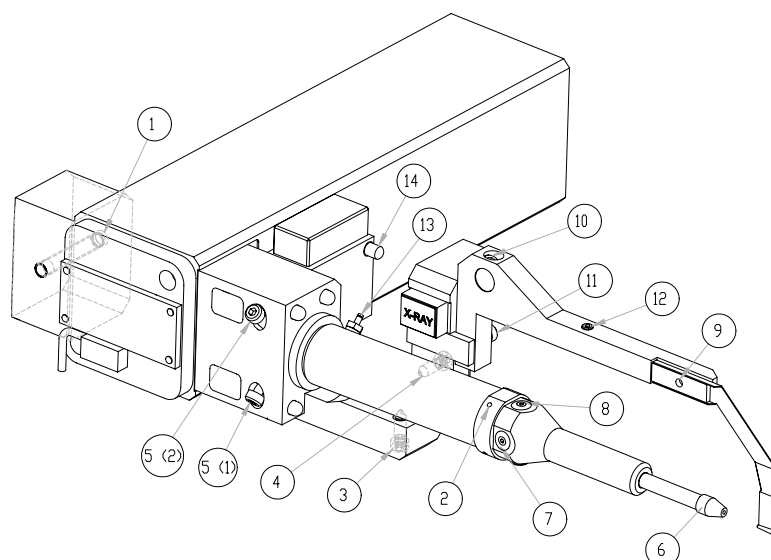

Figure 9.10.1 Adjustment screws of Enhance Ultra
5. Remove the Enhance ULTRA front face panel. Using a 3mm Allen key completely undo the screw 1 (see Figure 9.10.1) and lift off the front face panel.
6. Release the grub screws 2 (see Figure 9.10.1) and pull off the collimator
7. Unscrew the optic alignment x tilt, [i.e. screw 5(2)], y tilt [i.e. screw 5(1)] and the x pivot [i.e. screw 3] and y pivot [i.e. screw 4] (see Figure 9.10.1).
12. Adjust the height pivot screw 3 (see Figure 9.10.1) and type **card raw on 0.5**. Repeat points 11-12 to give a maximum intensity whilst retaining the sharply defined 45 degree square image.
13. Adjust the tilt screws 5(1) and 5(2) (see Figure 9.10.1) and type **card raw on 0.5**. Place the mouse cursor over the centre of the 45 degree square image. Right mouse click and select **integration at pixel position**. Record the intensity figure from the history window.
7. Fine adjust x tilt screw [i.e. screw 5(1) in Figure 9.10.1]. Type **card raw on 0.5**. Repeat points 6 – 7 until a maximum intensity figure results.
8. Fine adjust y tilt screw [i.e. screw 5(2) in Figure 9.10.1]. Type **card raw on 0.5**. Record intensity of the right hand spot as in point 6 above. Repeat point 8 until a maximum intensity figure results.
1. Remount the collimator by pushing on and tighten the grub screws 2 (see Figure 9.10.1). Note the collimator has a specific orientation.
4. Adjust the collimator x and y adjustment screws 7 and 8 (see Figure 9.10.1). Repeat 3 -4 until the X-ray beam is visible as a single intense circular spot.
7. Fine adjust the collimator x and y adjustment screws 7 and 8 (see Figure 9.10.1). Repeat 6 -7 until the X-ray beam is visible as a single intense circular spot.
9. Re-mount the Enhance ULTRA front face panel and secure using the screw 1 (see Figure 9.10.1).